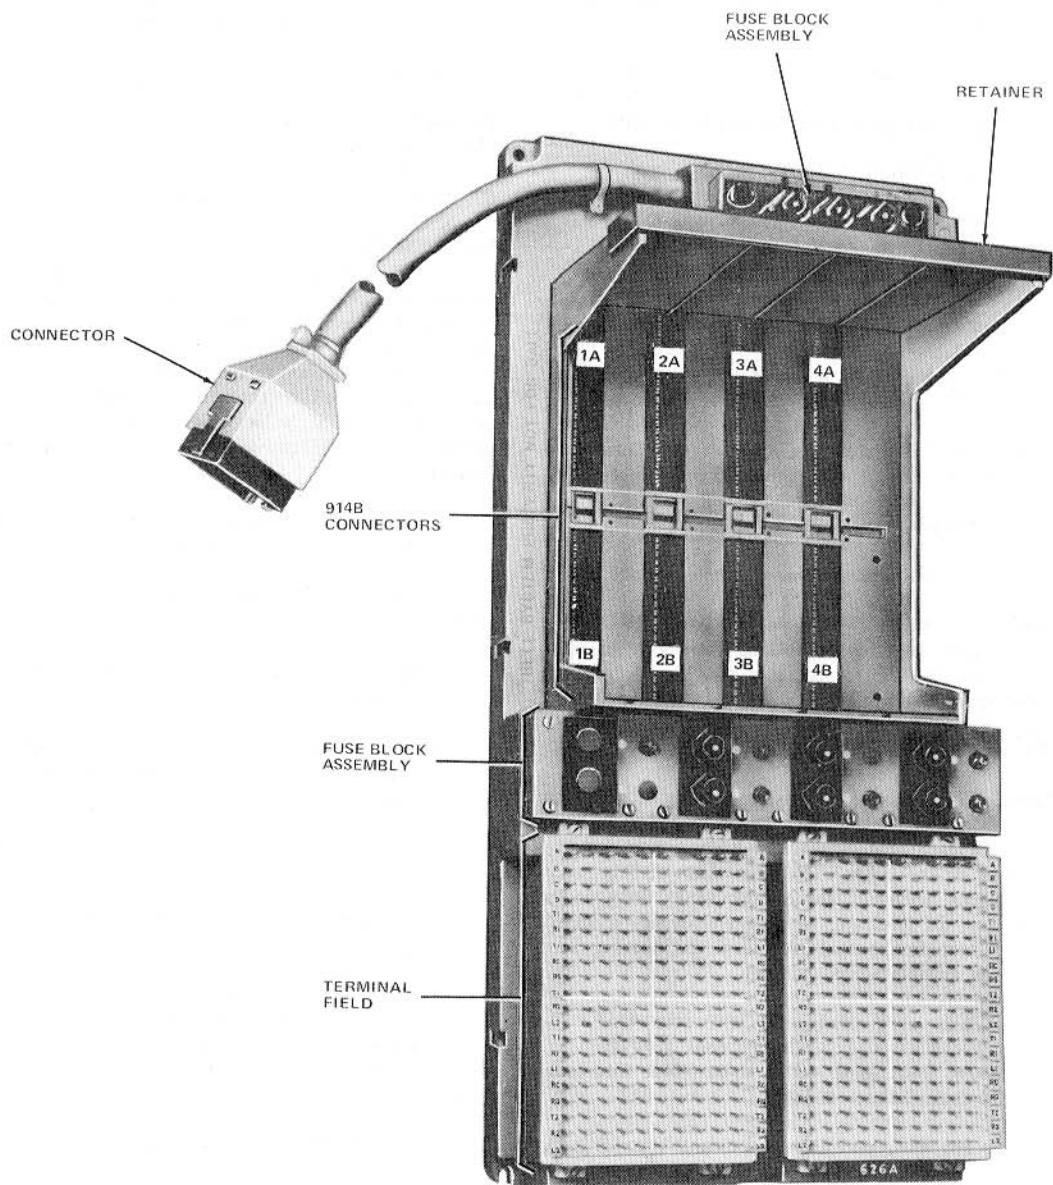

Fig. 3—626A Modular Panel
- 440A (MD)—TOUCH-TONE® Adapter Circuit
**1.04** ♦Detailed information on the 626A modular panel (Fig. 3) and its associated KTUs may be found in Section 518-215-421.